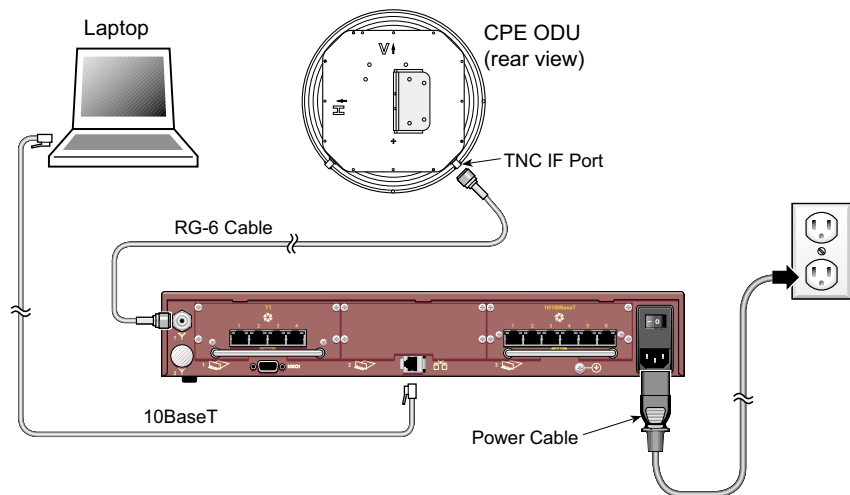

Figure 6-7. Power Cable Installation
- Connect the RG-6 cable to the CPE ODU1 port connector (see Figure 6-7).
- Plug the CPE power cord into either a 110/220 VAC power outlet (Figure 6-7 shows a typical 110 VAC outlet).